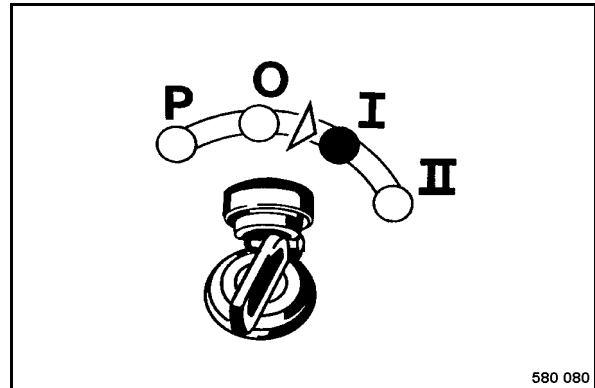

Fig. 196
- Turn the ignition key (Fig. 196) to position "I".